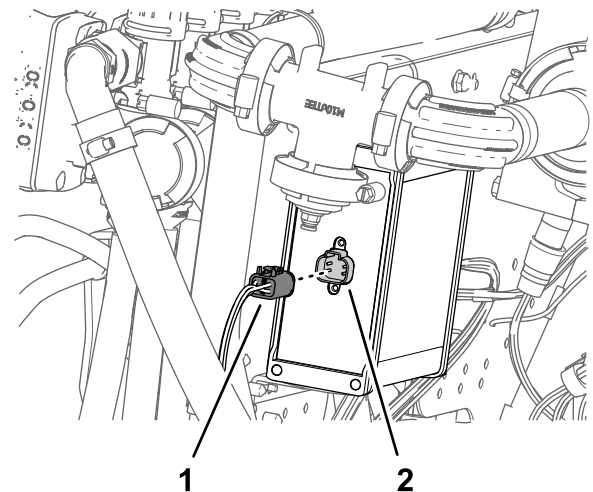

Figure 133
4. Insert the 4-socket connector labeled TO ASC 10 into the 4-pin connector of the ASC 10 spray controller (Figure 133).